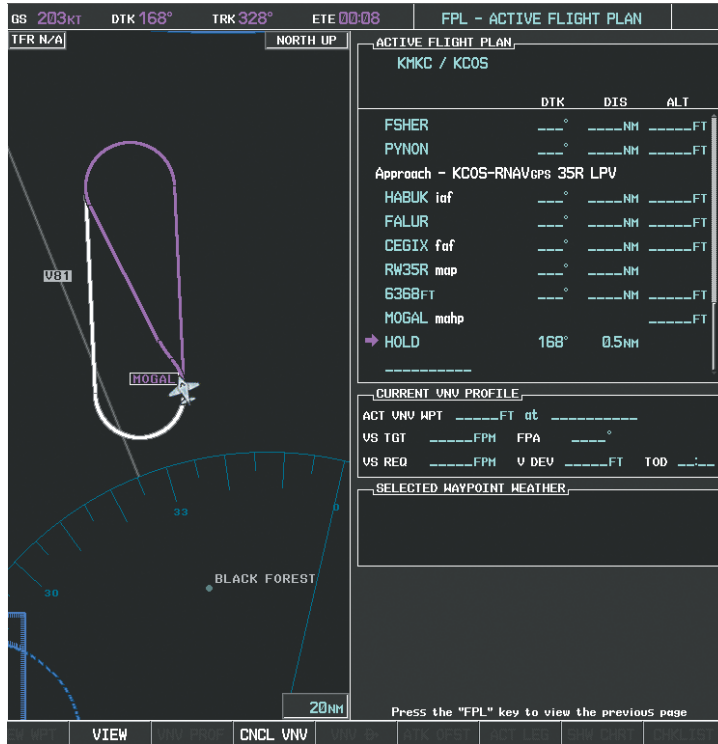

Figure 5-153 Establishing the Holding Pattern
26) The aircraft continues climbing to “AT or ABOVE” 10,000 feet at MOGAL. A holding pattern is established at the MAHP (MOGAL) as shown in Figure 5-153.